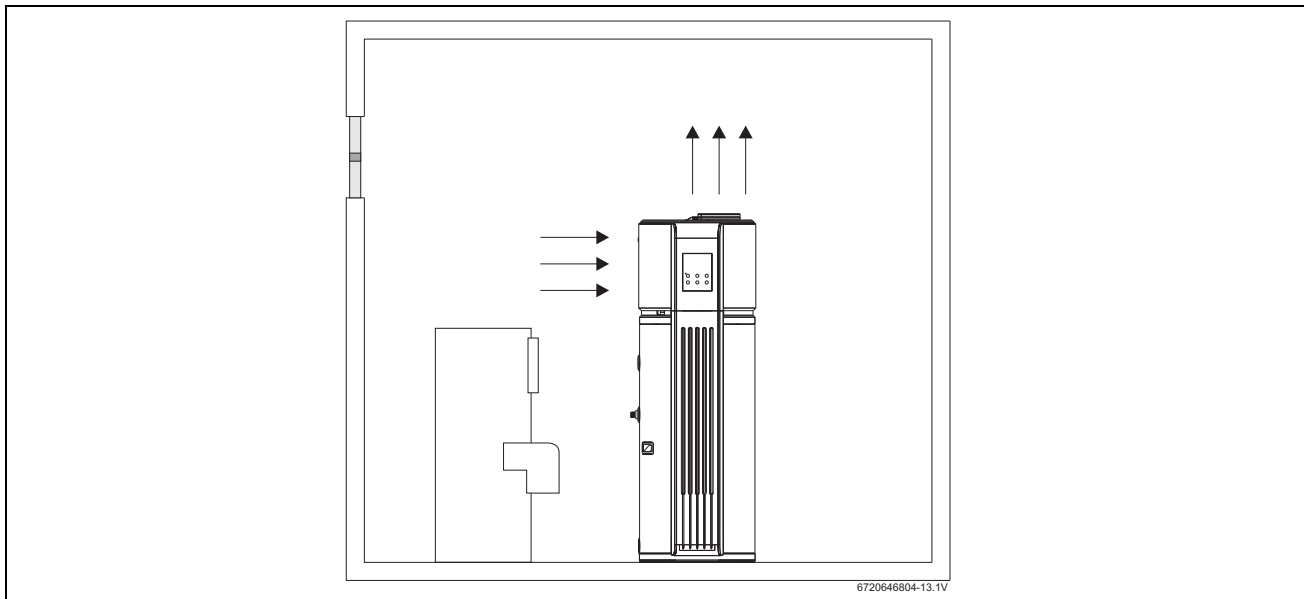

Fig. 11
3.6.1 Using heat from existing space (Fig. 11)